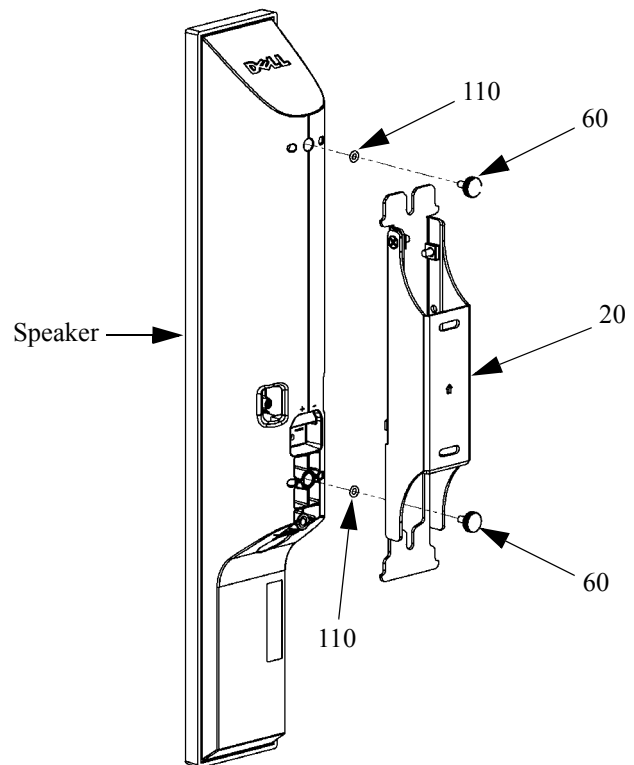

Figure 14. Install Speaker Using Two Thumb Screws
**NOTE:** Make sure to install an O-ring (110) between the speaker and wall bracket (20). The thumb screws (50) hold the speaker in place.
1. Install two thumb screws (50) and two O-rings (110) into the threaded holes on the speaker. Do not tighten the thumb screws at this point. (see Figure 14).
3. Place the speaker on the wall bracket (20), making sure each thumb screw is seated in the U-shaped slots in the center of the bracket.
4. Finger tighten the two thumb screws (50) to hold the speaker in place.